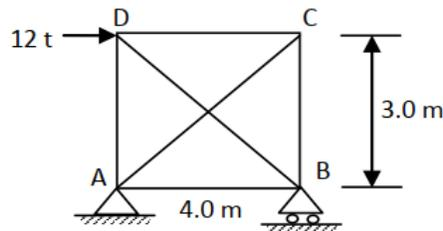

Fig.2
2. A pin jointed framed structure is loaded as shown in figure 2 below. Calculate the forces in all members. Take area for horizontal members as 20 cm^2 , vertical members as 30 cm^2 , inclined members as 50 cm^2 and $E = 2000 \text{ t/cm}^2$.